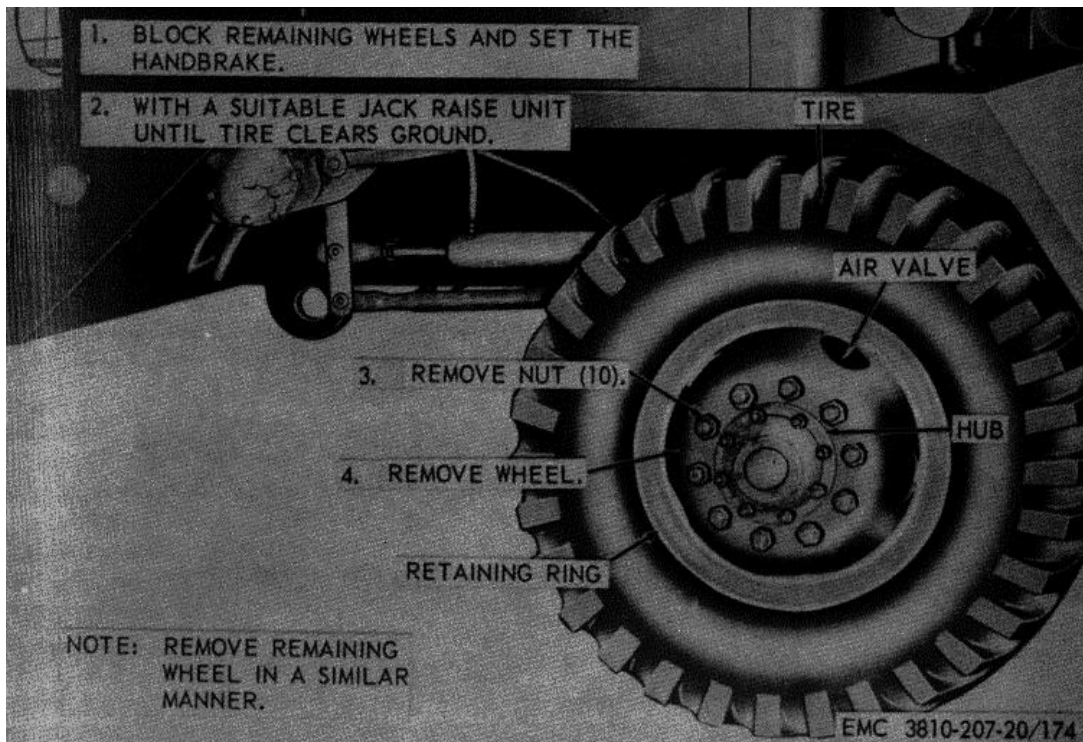

Figure 174. Front wheel, removal and installation.
- a. *Removal.* Remove the front wheel as instructed on figure 174.
- (1) Clean the wheel assembly with an approved cleaning solvent.
- (2) Inspect the wheel assembly for bends, worn mounting holes, and other damage. Replace or repair defective wheel assemblies.
- c. *Installation.* Install the front wheel as illustrated on figure 174.